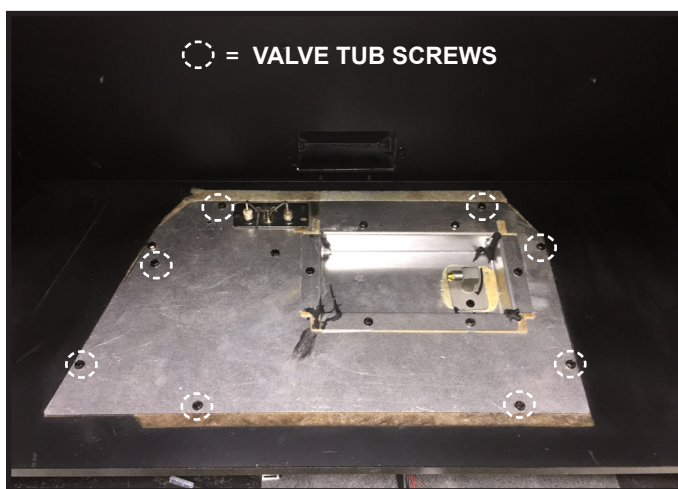

Figure 2.
5. Remove the screws from the valve tub. The pilot wires, pilot gas tube, and flex orifice line will still be attached to the valve tub. Set the valve tub to the side in order to allow access to the underside of the firebox. See Figure 2 and 3. Remove and discard old valve tub gasket.